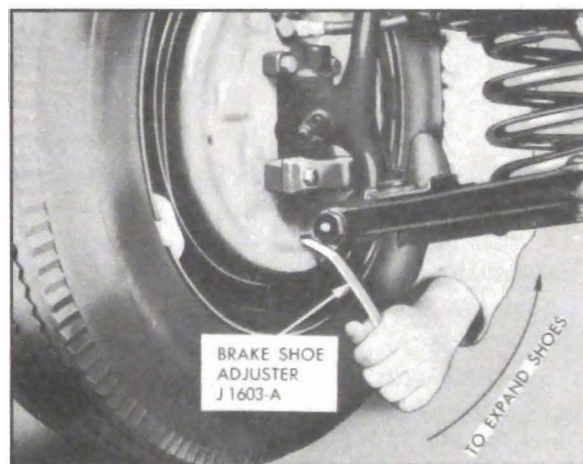

Figure 8-10—Expanding Brake Shoes with Tool J 1603-A
6. Remove adjusting hole covers from brake backing plates. Using Shoe Adjuster J 1603-A to turn brake adjusting screw, expand brake shoes at each wheel until the wheel can just be turned by hand. Moving outer end of tool upward toward center of wheel expands the shoes. See figure 8-10. The drag should be equal at all wheels.
(b) Using Shoe Adjuster J 1603-A (fig. 8-10), turn brake adjusting screw to expand brake shoes until wheel can just be turned with two hands.